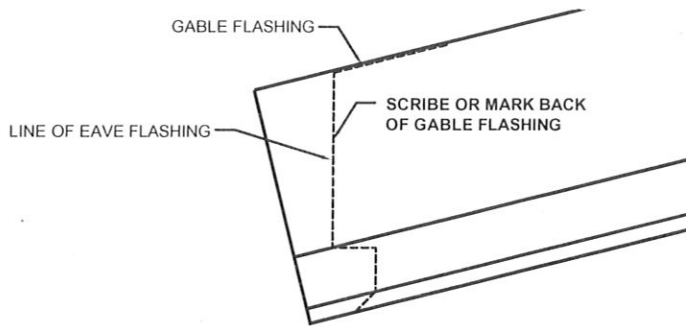

FIGURE 20
22.0 Next, install gable end (gable flashing) as in figure 20.